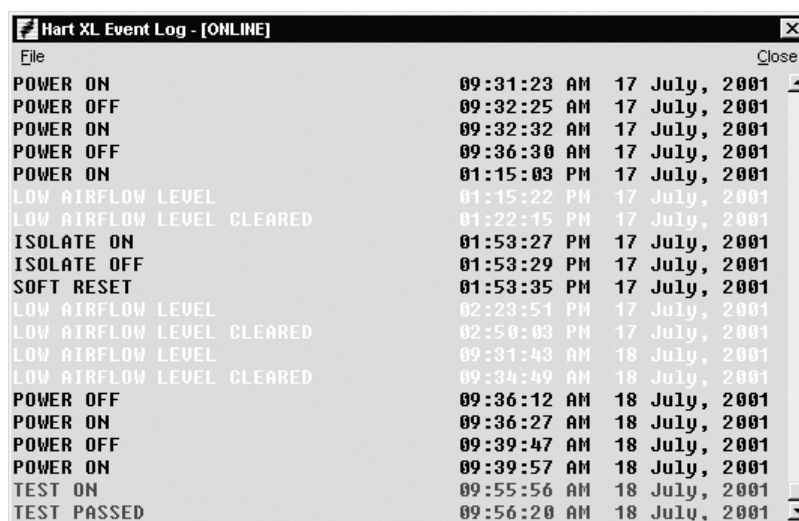

Figure 7-19. Event History Window
1. Select **Options>Event History>Download Event History**. The HART XL Event History window opens, as shown in Figure 7-19.